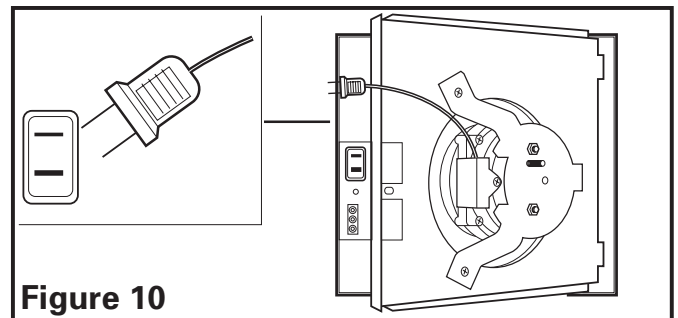

Figure 10
1. Reinstall the fan's venturi by holding it at approximately a 45 degree angle, hook the two tabs on the venturi into the slots on the housing and secure in place by tightening the venturi screw. Rotate the blower wheel by hand to ensure it spins freely. Now plug the fan motor into the receptacle (**Figure 10**).